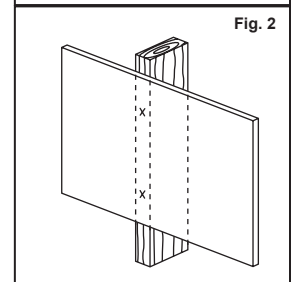

Fig. 2
4. While another person holds the mount in place, mark two locations as shown for securing the mount to the wall (see Fig. 2).
6. Place the mount against the wall over the drilled holes, making sure the arrow on the mount points up. Attach the mount to the wall using the lag bolts (A) and lag bolt washers (B) provided (see Fig. 2). **Do not over-tighten these bolts and do not release the mount until all bolts are in place.** Ensure that the mount remains level after all bolts are secured.